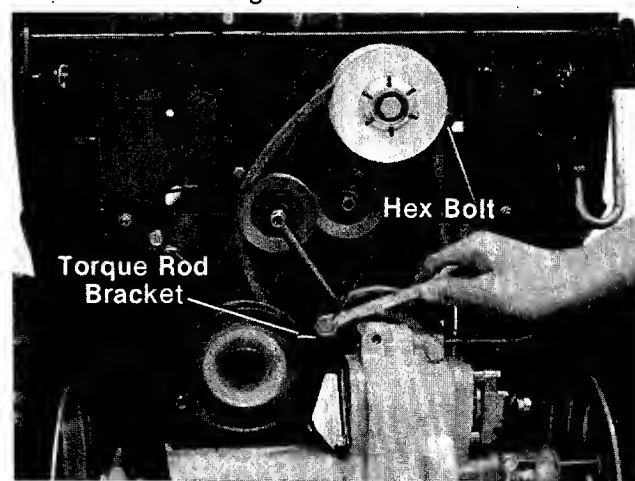

FIGURE 37.
4. Remove the hex bolt which holds the torque rod bracket to the torque rod, and remove bracket. See figure 37.